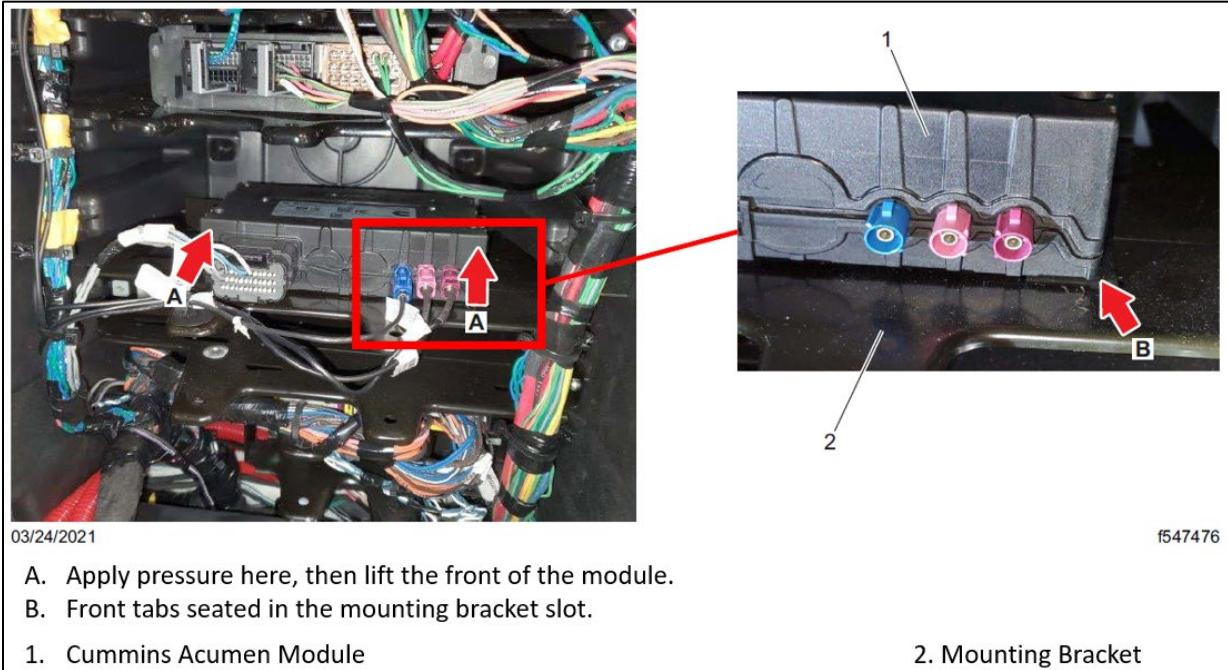

Fig. 12, Cummins Acumen Module Removal
2. Remove the Cummins Acumen module from the electronics bay by applying light pressure at the front of the module in order to push it backwards, then lift it to release the front tabs. See **Fig. 12**.